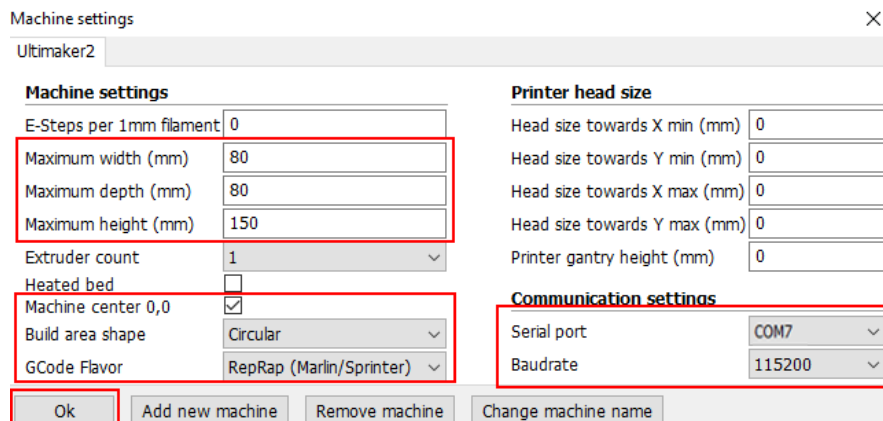

Figure 5.148 Parameters setting
2. Set the corresponding parameters on the Machine settings and click **OK**, as shown in Figure 5.148. Table 5.16 lists the values of the parameters that need to be set. The other parameters are set by default.